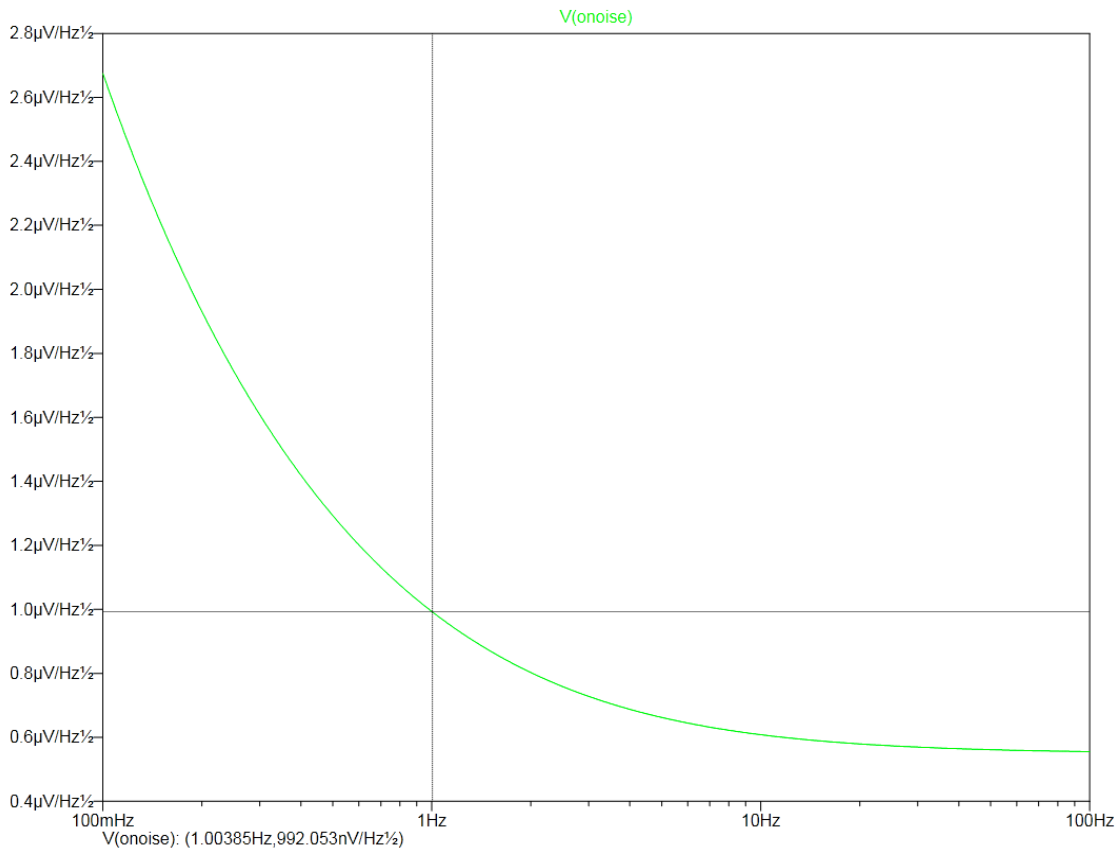

Figure 3: Simulated Noise Plot.
- 5.4.4. Once the measurement has finished, open Matlab and run *GS13_preamplifier_noise_processing.m*. Disregarding 60Hz peaks, the noise should start at somewhere under $2.8\mu\text{V}/\sqrt{\text{Hz}}$ (-111 dB), and fall like frequency until 1-to-2Hz. It should not be higher than $1.2\mu\text{V}/\sqrt{\text{Hz}}$ (-120 dB) from 1Hz to 10Hz, and should not be higher than $650\text{ nV}/\sqrt{\text{Hz}}$ (-124 dB) from 10Hz to 1KHz. A simulated noise plot is shown in Figure 3.